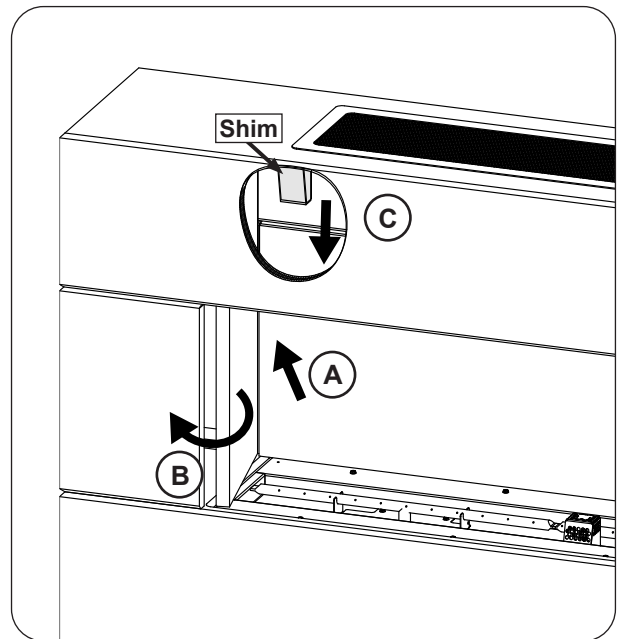

Fig. 32-3 Insert side liners, and shims
2. Insert a side liner. First insert the rear portion, then rotate the front into position. Finish by sliding a shim (by hand) between the rear liner and rear wall. The shim secures the liner set in place. See Fig. 32-3.